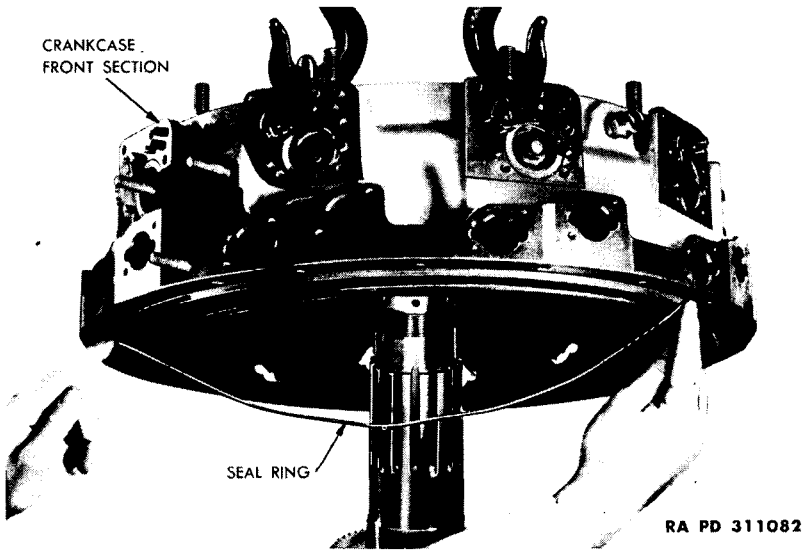

Figure 60 — Installing Crankcase Seal
(1) **INSTALL SEALS.** Install sealing ring on pilot diameter of crankcase front section (fig. 60). Install "T" section oil passage seal into oil manifold groove that transmits lubricating oil to valve tappets (fig. 61).